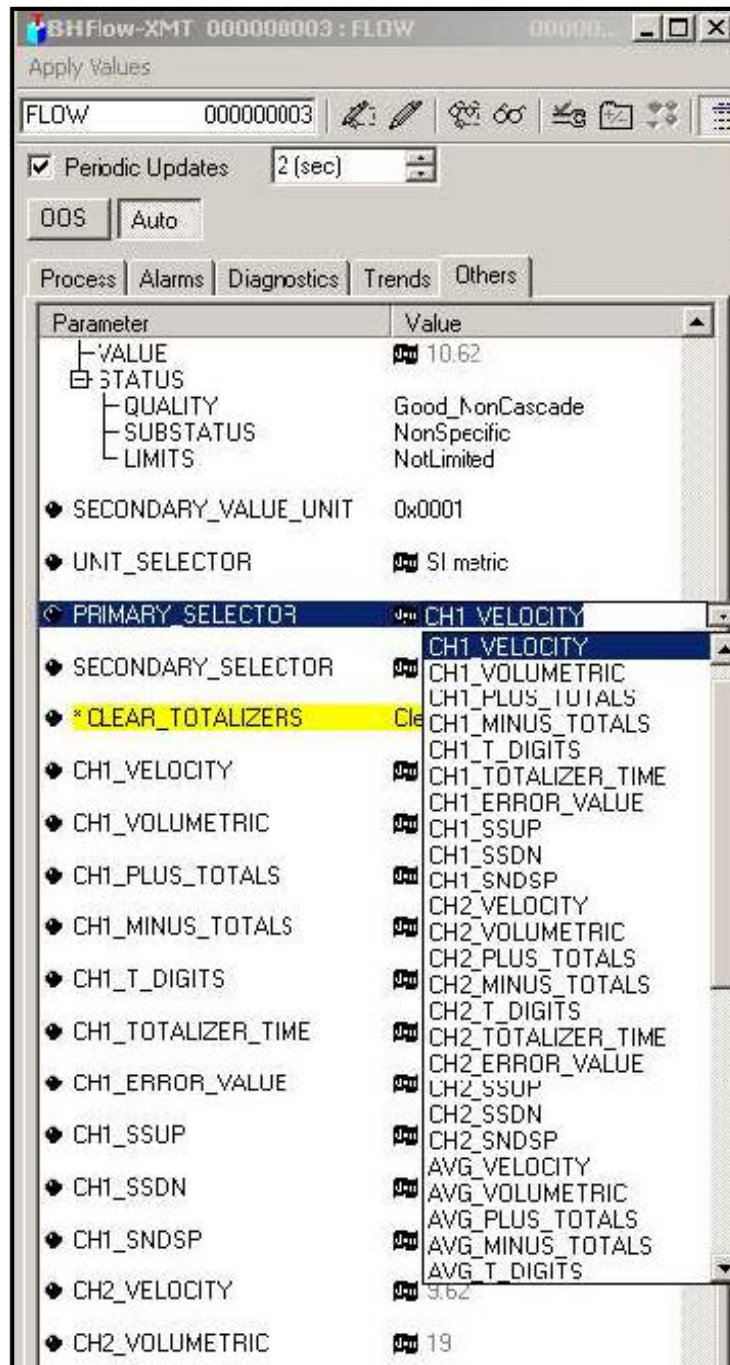

Figure 41: Primary Selector Drop Down List
2. Select the Others tab and open the drop down list for the PRIMARY_SELECTOR and SECONDARY_SELECTOR (refer to Figure 41).
3. Choose the unit from the list (see Figure 41).